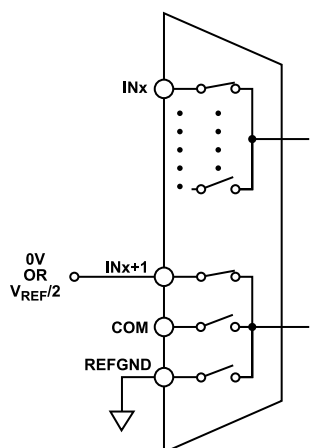

Figure 71. Even- and Odd-Channel Paired
- Figure 71, even numbered input paired with the next highest odd numbered input (for example, IN0 with IN1, IN2 with IN3, and so on).